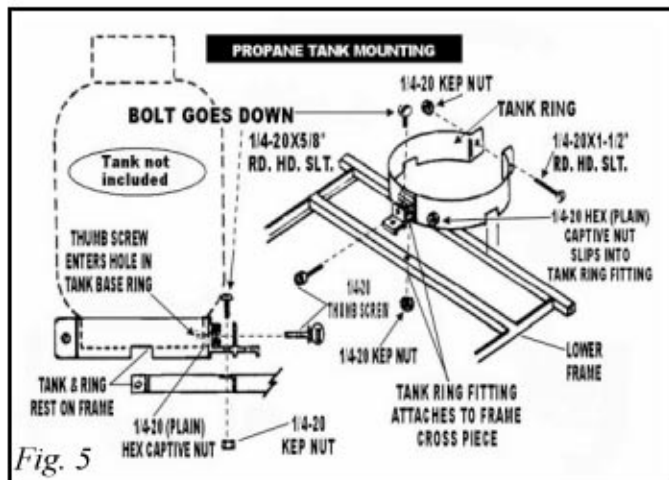

Fig. 5
Step 3: Tank Holder Ring Assembly For LP Gas Models (Fig. 5)
Step 1: Deck/Patio Base Mounting Assembly (Fig. 5)